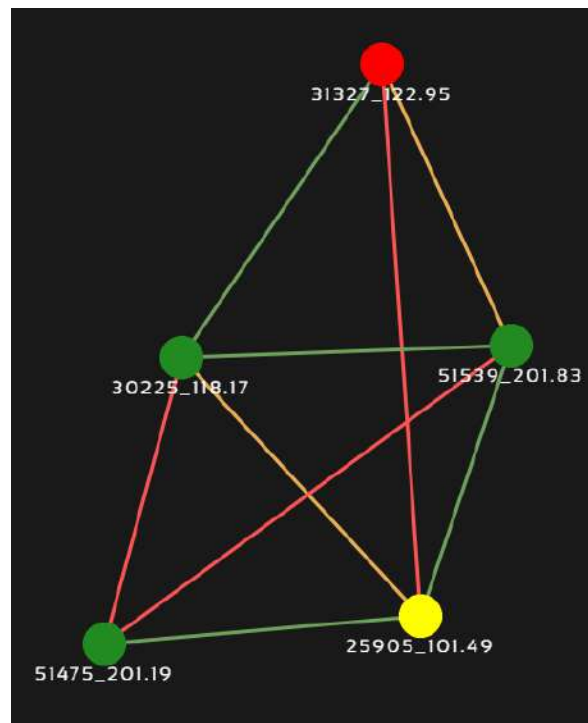

Figure 42 Example Network Topology
- **Color Coded Link Health** – Color coding of each link in the network allows the user to quickly identify the weak links within a network. A link between two nodes will transition from green to yellow to red as the link weakens while also displaying the SNR of the link. This can be seen in **Figure 42 Example Network Topology**.
- **Route Health** – The Silvus StreamScape Utility will alert the user when too many packets are being routed through a single node. In such cases, a node will change from green to yellow to red as the packet queue increases (see '31327_122.95' and '25905_101.49' in **Figure 42 Example Network Topology**). This will allow the user to recognize the issue and configure the network accordingly. Table below also shows the values for each scenario.